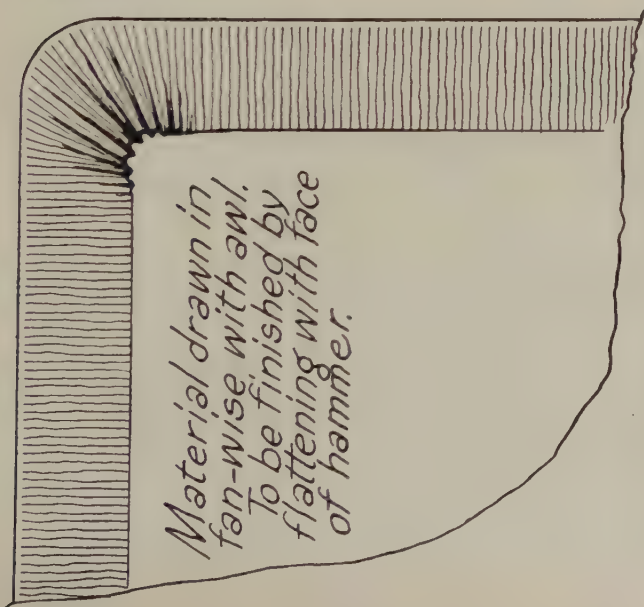

FIG. 91—STANDARD ROUND CORNER TURN-IN
11. Take your awl and turn in the four corners, drawing the material "fan-like" toward a central point. (See Fig. 91., Page 207.)